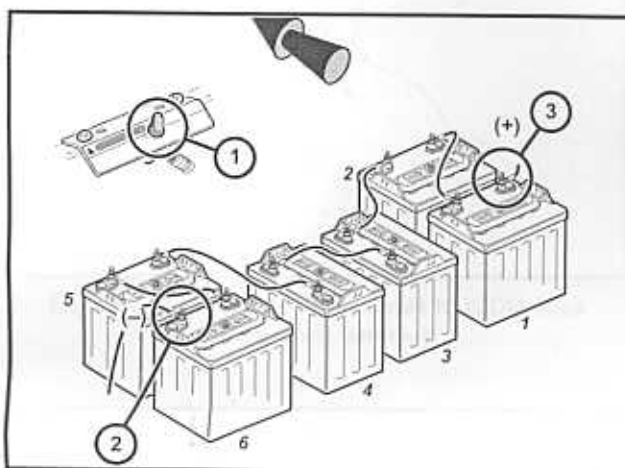

Figure 2 Battery Cable Removal –
- To avoid unintentionally starting the vehicle, disconnect the batteries as shown (Figure 2 through Figure 5, Page 5).